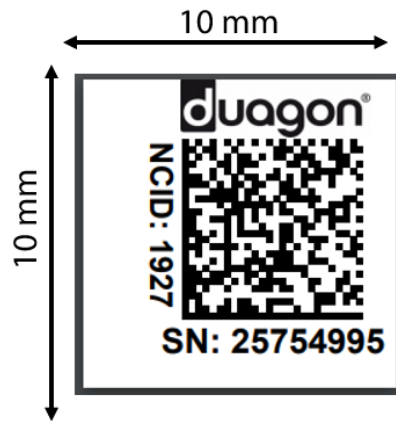

Figure 1: New small product identification label for products with limited space.
- Small product identification label for products with limited space e.g. D017M, D017E, D013, D015M, etc. (see figure 1).